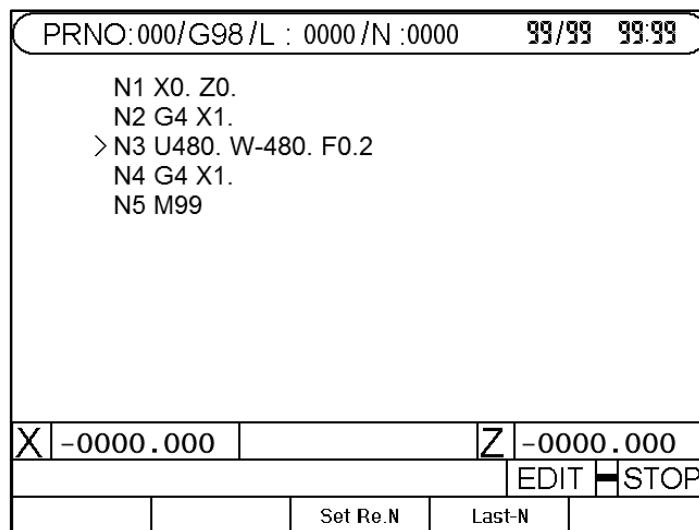

Fig.2-37
3. Press DEL key and the LCD display is as shown in Fig 2-37 (Block N4)